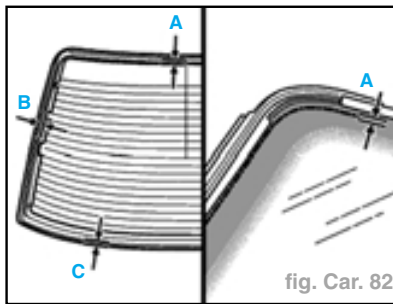

fig. Car. 82
- (A) = 7 mm
- (B) =  $12 \begin{smallmatrix} +1 \\ 0 \end{smallmatrix}$  mm
- Respecter les distances (A), (B) et (C) entre le cordon de colle et le joint (fig. Car. 82) :
- (A) = 2 mm
- (B) = 2 mm
- (C) = 8 mm